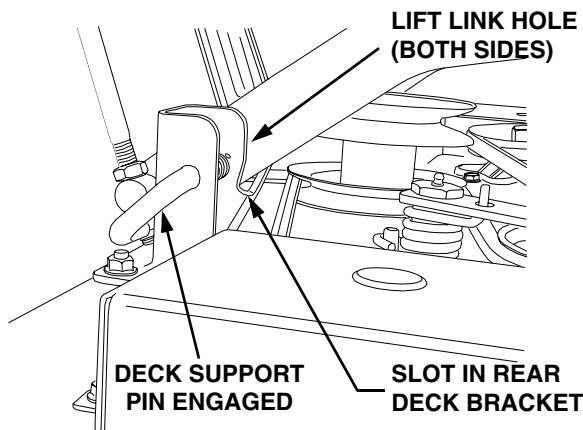

Figure 48
8. Pull both deck support pins outward and rotate rearward to disengage the outer surface of the rear deck brackets. Release the pins, making certain each deck support pin passes through the inner hole of the rear deck bracket. The spring tension will push the pins inward and, if aligned, through the hole in each implement lift link (See Figure 48).